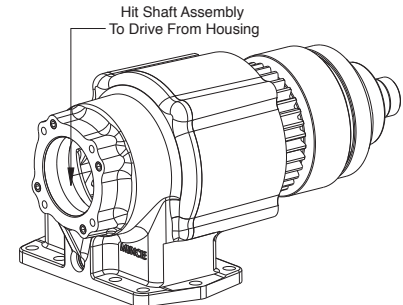

Figure 4 – Output Shaft Drive
6. Next, position the housing (37) against a bench block and hit the end of the output shaft (10) with a soft face hammer to remove the entire output shaft assembly from the housing (37). *See Figure 4*